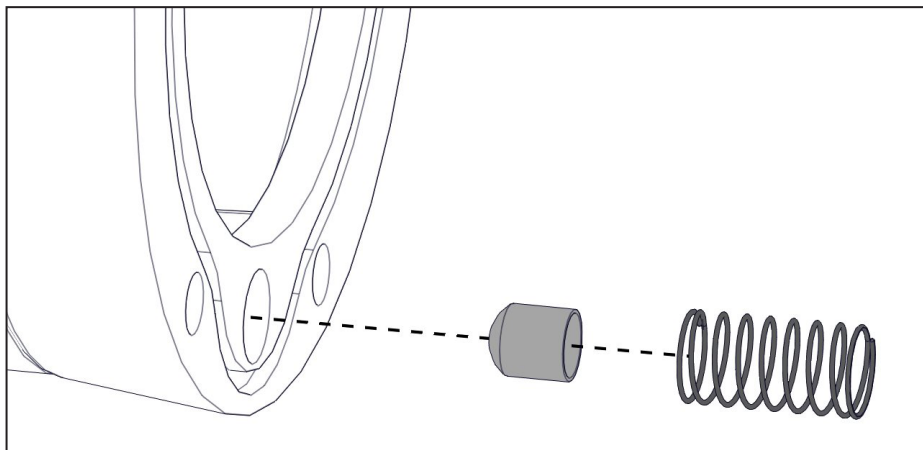

Figure 32 — Install scavenge screen and spring
- ☐ Install the new thimble screen and spring (Figure 32).